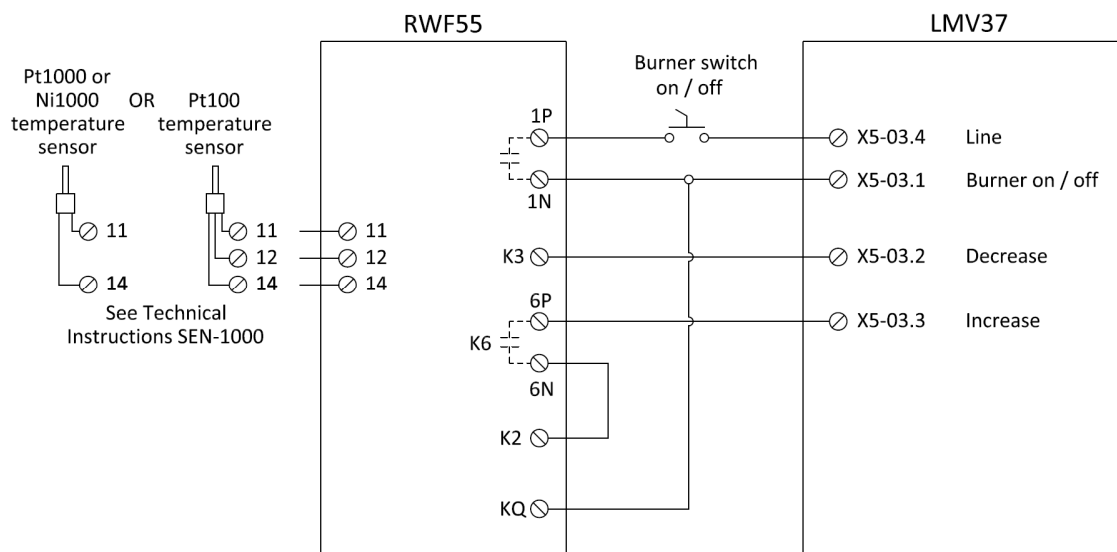

Figure 8: Low Fire Hold via 3-position Output on a Hot Water Boiler
2. Wire the LMV37 and RWF55 as shown in Figure 8: